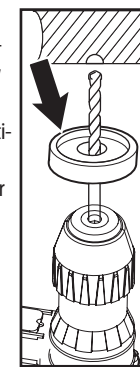

Fig. 7
4. When performing chiselling or drilling work in a top vertical position, e.g. into a ceiling, it is necessary to slide on the auxiliary anti-dust cover on to the shank of the respective work tool (Fig. 2, position 11 and Fig. 7) and to also protect the motor vents through which the falling debris could enter into the motor.